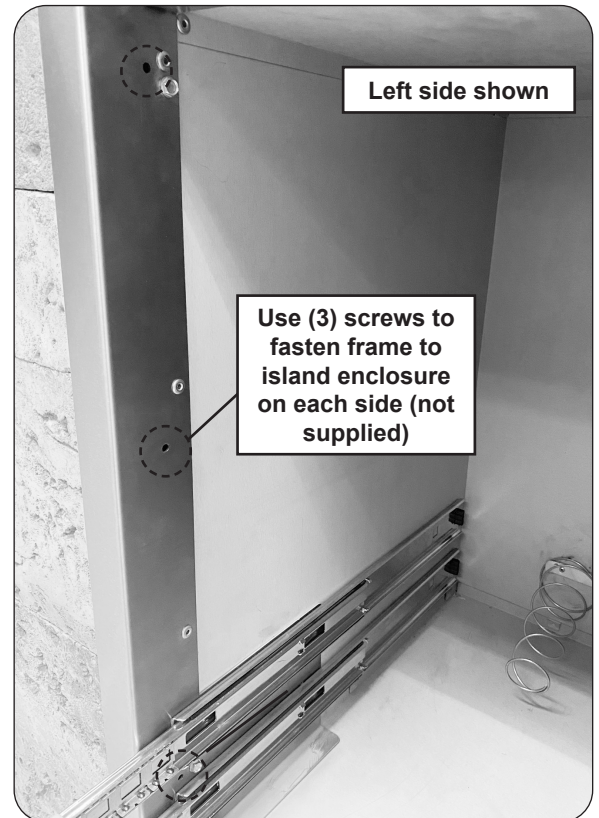

Fig. 3-1 Fasten side walls of frame
7. Locate the 3 screw holes found on each of the left and right sides of the accessory frame (see Fig. 3-1). Secure the accessory using a 1/8" by 3/4" fastening screws (not supplied) that are appropriate for the enclosure framework. **DO NOT OVERTIGHTEN.**